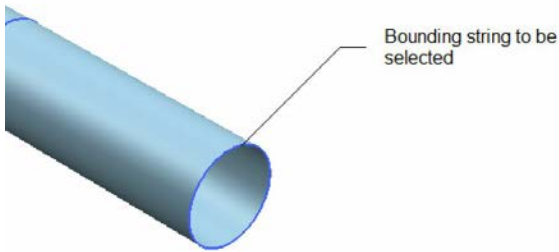

Figure 10-126 The bounding string to be selected
- Create the bounded plane surface as the fifth feature, refer to Figure 10-126.
2. Select the **Trimmed** option from the drop-down list in the **Type** rollout and then select the circular edge, refer to Figure 10-126. The preview of the bounded plane surface is displayed. Next, select the **Trim to Boundary** check box from the **Settings** rollout and choose the **OK** button from the dialog box; the fill surface is created.